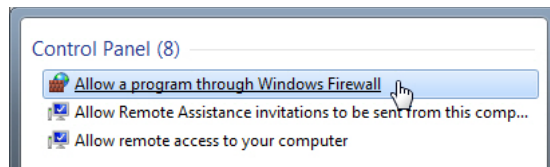

Figure 20 Control Panel
- b In the Control Panel, select **Allow a program through Windows Firewall** as shown in Figure 20 on page -52.